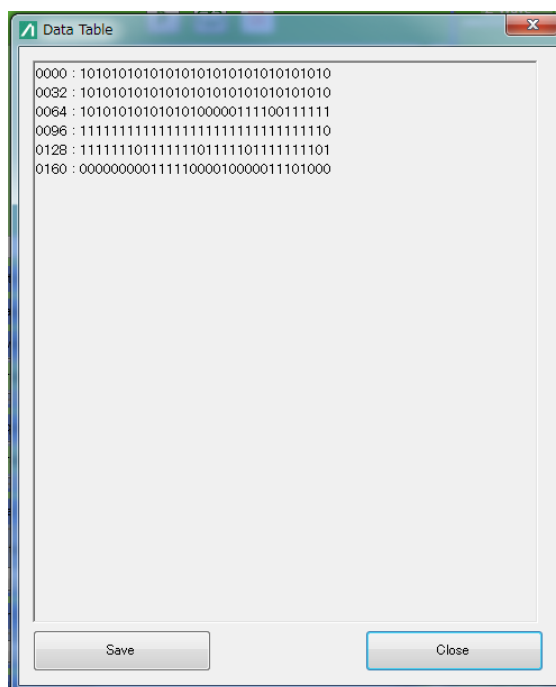

Figure 3.2.2-1 Z-Wave (Data Table) Results Display
- Click the **Power vs Time** or **Frequency vs Time**, and click  in each **Graph** for **Power vs Time** or **Frequency vs Time** to display the graph. The graph (Figure 3.2.2-3, Figure 3.2.2-4) is displayed on the Results Tab.
- Click the **Display Table** and **Data Table Display** to display the demodulated results. The Data Table window (Figure 3.2.2-1) is displayed.
- Click the **Each Packet Results** button and **Each Packet Results Display** button to display the each packet results (EVM, etc.). The Each Packet Results window (Figure 3.2.2-2) is displayed.